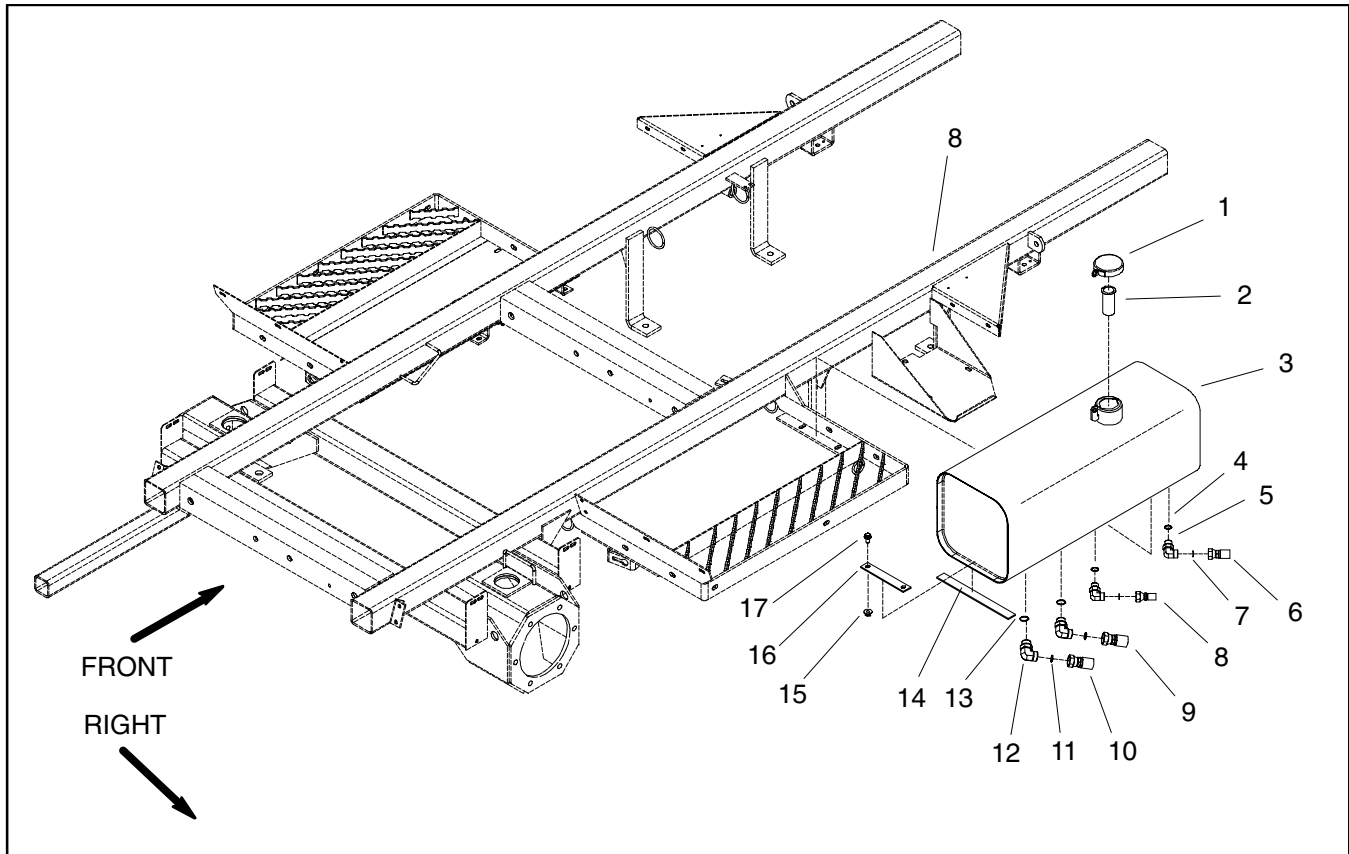

Figure 55
### Removal (Fig. 55)
5. Remove hydraulic reservoir from machine using Figure 55 as a guide.
### Installation (Fig. 55)
1. Install hydraulic reservoir to machine using Figure 55 as a guide.